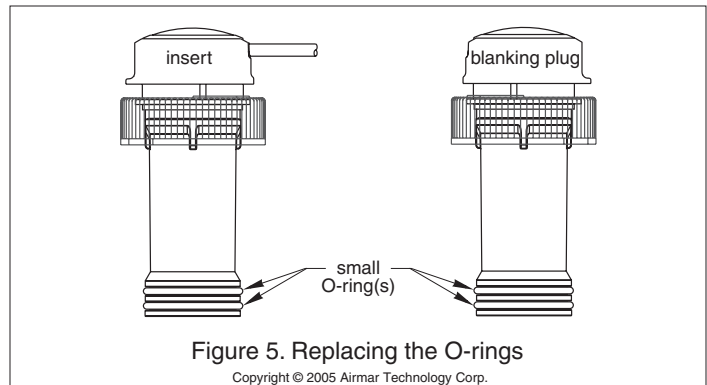

Figure 5. Replacing the O-rings
- On the blanking plug, inspect the O-rings (replace if necessary) and lubricate them with the silicone lubricant supplied or petroleum jelly (Vaseline®) (see Figure 5).
O-rings must be free of abrasions and cuts to ensure a watertight seal. Install two O-rings near the bottom of the insert (see Figure 5). Place the remaining two O-rings in similar positions on the blanking plug.